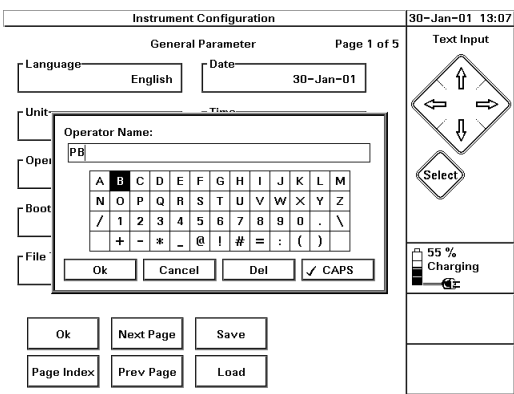

Figure 19 Keyboard to Enter Text
- 3 Move to the box headed `Comment 1` and press `SELECT`. You see a keyboard on the screen (see Figure 19), Add letters from the keyboard until your comment is complete.